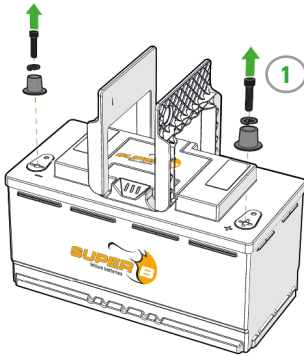

Figure 9. Remove the automotive power terminals.
1. Remove the automotive power terminals. (Figure 9)